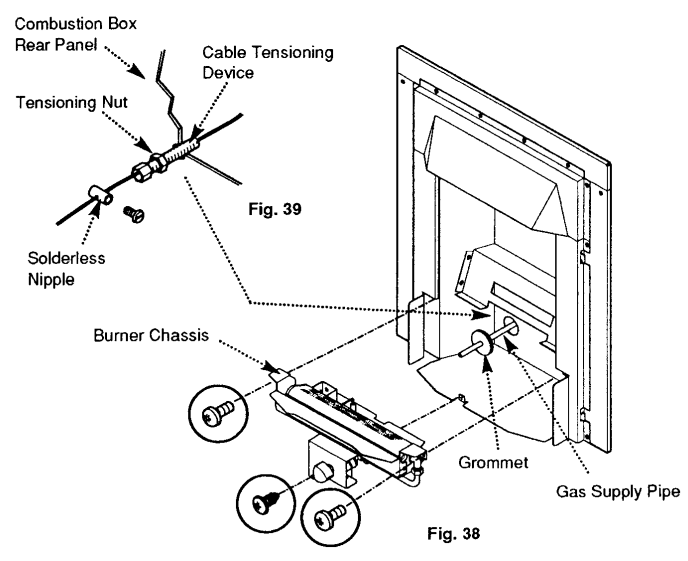

Fig. 38
6. Undo the three screws retaining the burner chassis to the combustion box sides and combustion box base. Withdraw the burner chassis from the fire (Fig.38).
8. Where applicable, remove the grommet from the gas supply if it is routed through the fire rear panel (Fig. 38).